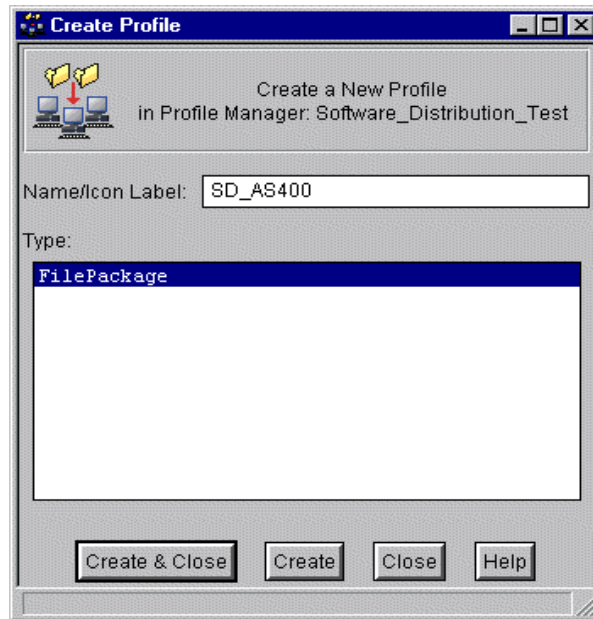

Figure 328. Creating a software distribution profile
3. Open the Tivoli desktop, and create a new Software Distribution profile in your policy region. Give the profile a type of **FilePackage** as shown in Figure 328.